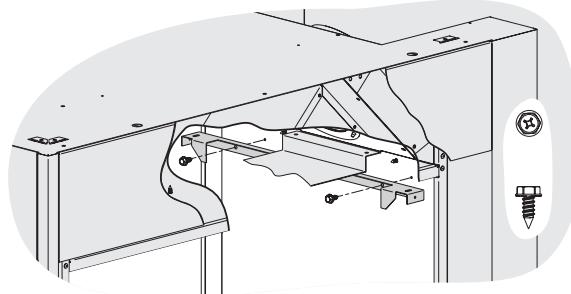

Figure 62
7. Attach a second brick bracket to the top of the firebox wall using two sheet metal screws as shown in **Figure 62.**